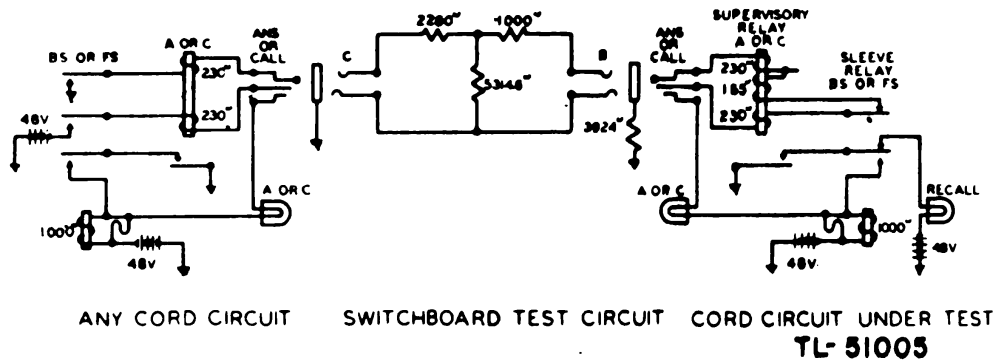

Figure 52. Test of sleeve and supervisory relays, Switchboard BD-110-(), functional diagram.
(7) NONOPERATE TEST OF SLEEVE RELAY AND CHECK TEST FOR CONTINUITY OF THREE WINDINGS OF SUPERVISORY RELAY (fig. 52). Connect the plug of the cord under test to the B jack, and connect the plug of any other cord to the C jack. This operates the supervisory relay, but not the sleeve relay. If the recall lamp of the cord under test lights, there is no trouble. This test, then, also performs a continuity test on the three windings of the supervisory relay. Failure of the recall lamp to light indicates that the sleeve relay fails to meet its nonoperate requirements, or that the supervisory relay fails to meet its operate requirements on the three windings.